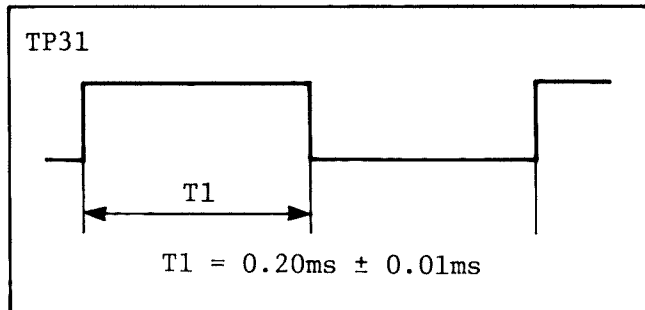

Fig. 2-4-5. FG DUTY
4. Adjust VR11 (FG DUTY) as shown in Fig. 2-4-5.